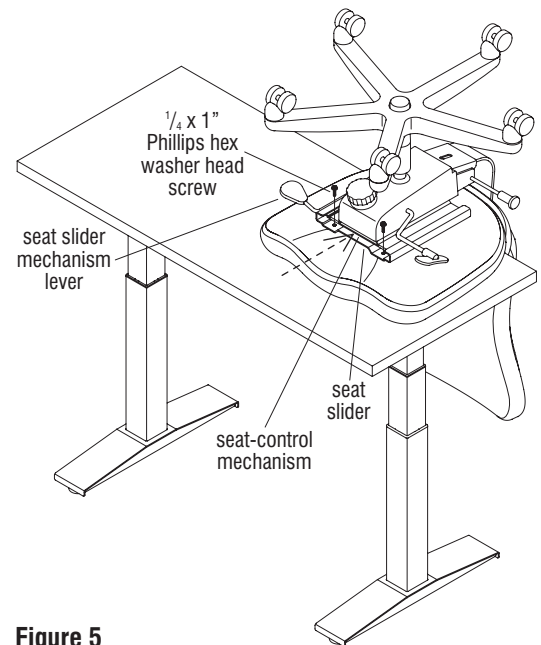

Figure 5
3. Insert the two front or rear  $\frac{1}{4} \times 1$ " Phillips hex head washer screws through the seat slider mounting holes and into the seat. Press the seat slider mechanism lever down and slide the seat-control mechanism until the remaining two mounting holes are exposed. Secure with the remaining two seat slider mounting holes to the seat using two  $\frac{1}{4} \times 1$ " Phillips hex head washer screws (Figures 5 & 6).